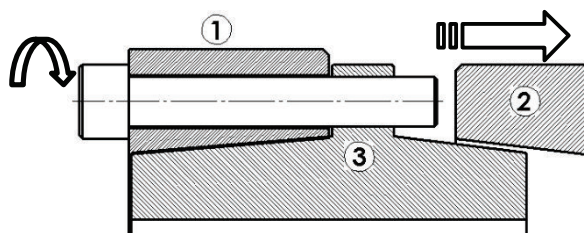

Fig. 4
- 1.** Loosen all the cap-screws of the locking element and transfer as many as possible into the tapped holes of the CENTRE/INNER-RING (Part 3 in Fig. 4).
- 2.** Starting at the split of the locking element, tighten the cap-screws in a clockwise fashion so as to push the BACK-RING (Part 2 in Fig. 4) off the taper of the centre/inner-ring.